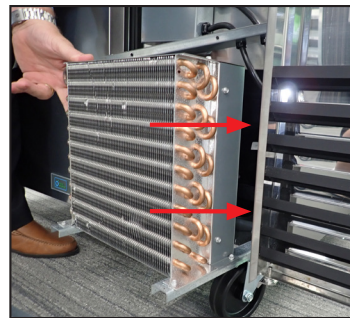

Fig. 7. Carefully slide the condensing unit back into position and replace bolts and coil brackets.
9. Carefully slide the compressor assembly back into position and replace the bolts. See fig. 7.